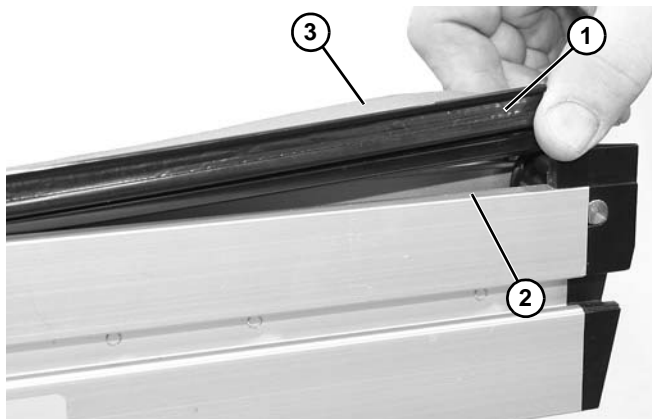

Figure 34
- Remove the bedstrip (**Figure 34, item 1**) from between the conveyor (**Figure 34, item 2**) and belt (**Figure 34, item 3**).